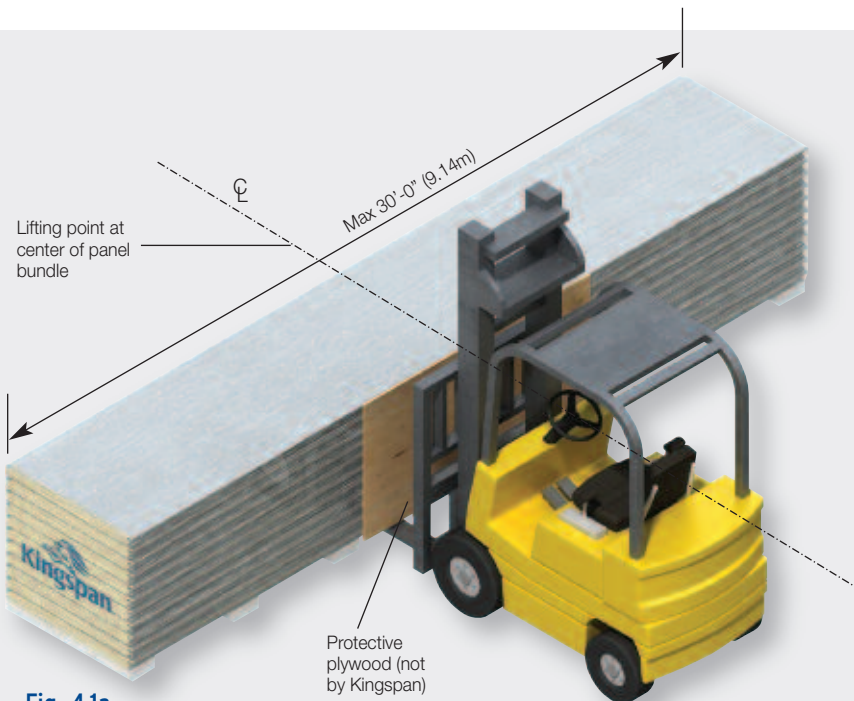
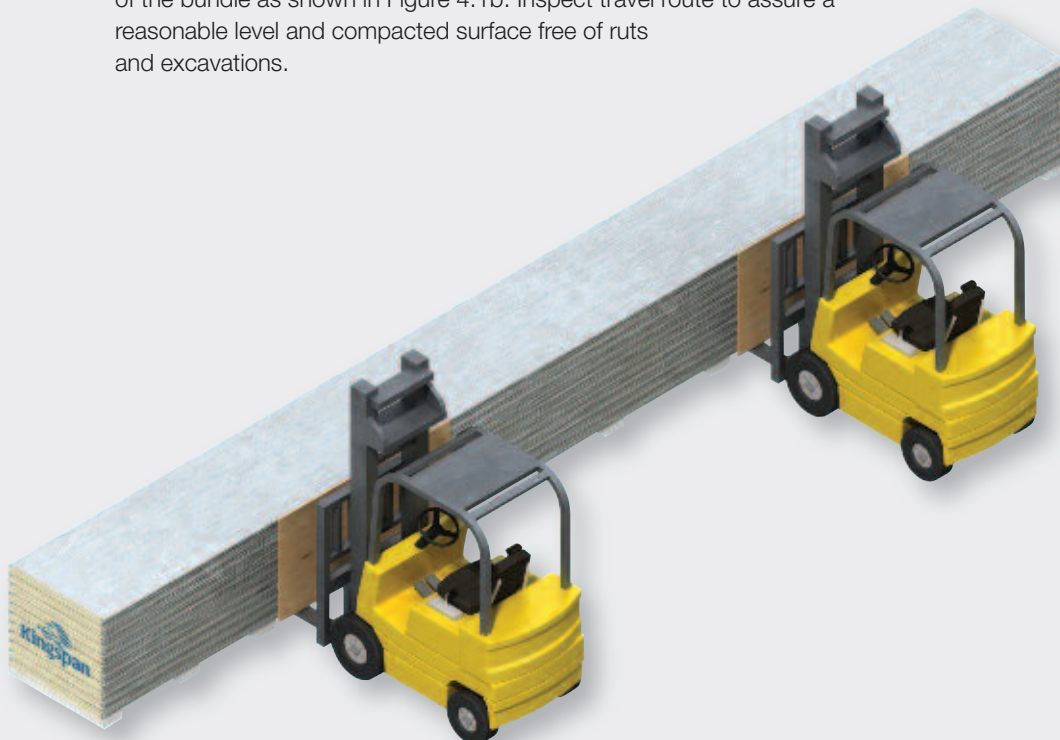

Fig. 4.1a
Fig. 4.1b
4.1.1 The recommended loading / unloading method for bundles less than or equal to 30' is to use a single forklift with widely spaced forks placed under the center of the bundle as shown in Figure 4.1a. Panel bundles over 30' in length may be moved by using two forklifts spaced equally along the length of the bundle as shown in Figure 4.1b. Inspect travel route to assure a reasonable level and compacted surface free of ruts and excavations.